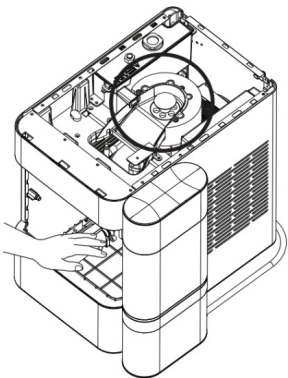

Figure 11
3. Clean the sensors with vinegar and wipe clean with water. After draining the vinegar, run three dose cycles, using fresh water for each rinse. See figures 11, 12, and 13 to reference location of the sensors.